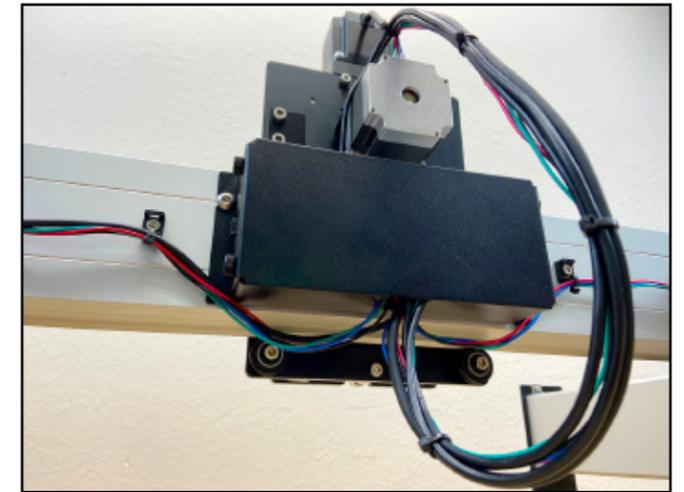

Figure 7-15
3. Direct all cables through the cutout at the bottom of the enclosure and re-install the enclosure cover. Use the 2mm hex key on the flanged button head cap screw. See **Figure 7-15**.